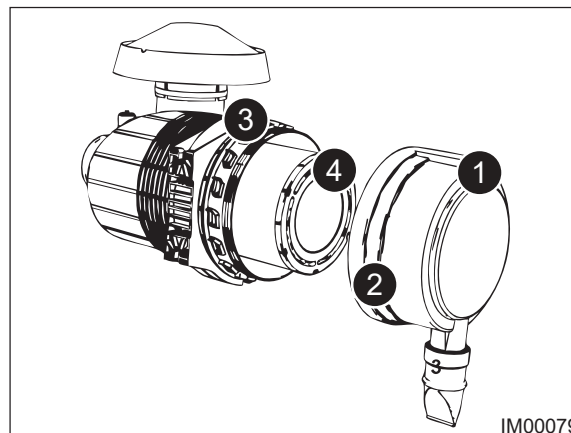

Fig: 11.16 - Air Cleaner
3. On the air cleaner (Fig: 11.16), depress the button (Item 1) and rotate cover (Item 2) counter-clockwise. Remove cover (Item 2) from main body of air cleaner (Item 3). Ensure that the inner of cover (Item 2) is clean and free from dirt.
4. Remove old air filter element (Item 4, Fig: 11.16) and discard.
5. Ensure that the inner of the main body of the air cleaner (Item 3, Fig: 11.16) is clean and free from dirt.
6. On the air cleaner (Fig: 11.16), install the new air filter element (Item 4) into the main body of the air cleaner (Item 3). Align the cover (Item 2) to main body of air cleaner (Item 3) and turn cover clockwise (Item 2) until the cover locks into position.